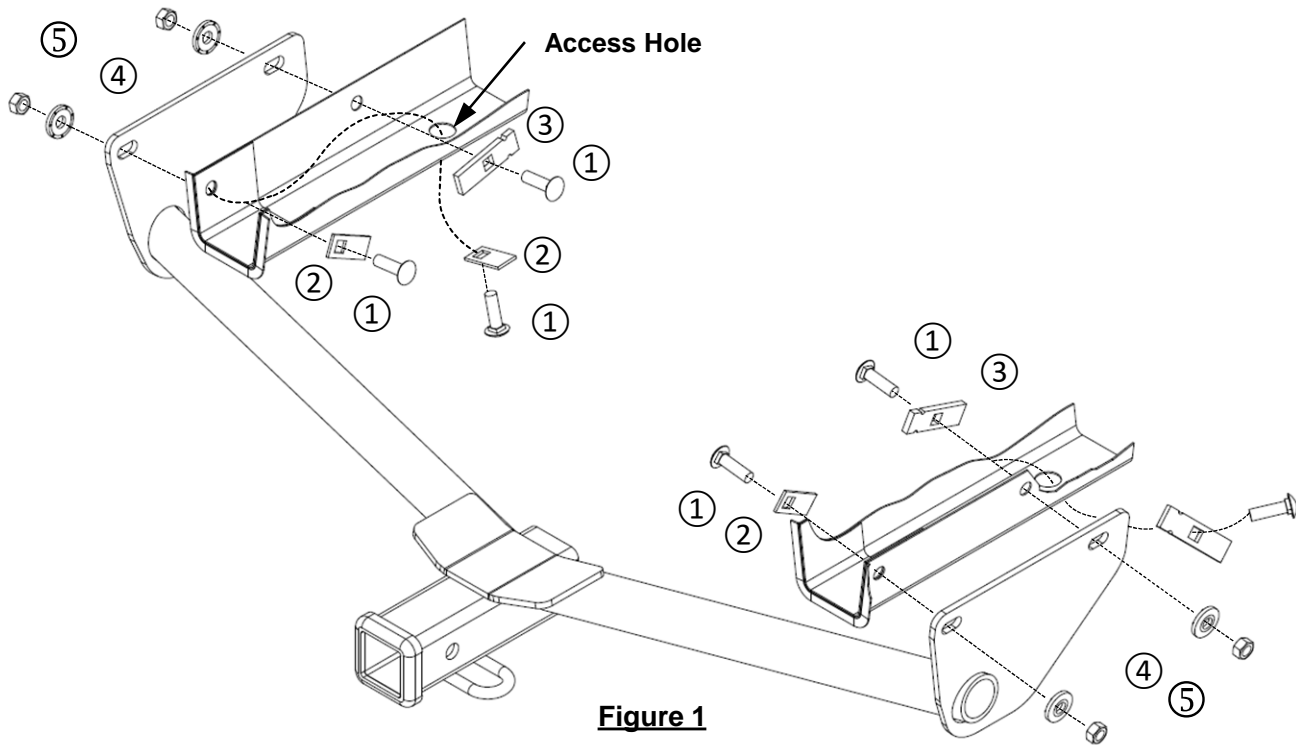

Figure 1
- c. Temporarily leave fasteners inside the frame rails. **See figure 1.**
- d. Remove pull wires and loosely install the conical washers and hex nuts onto carriage bolts, (4) places (2 per side).